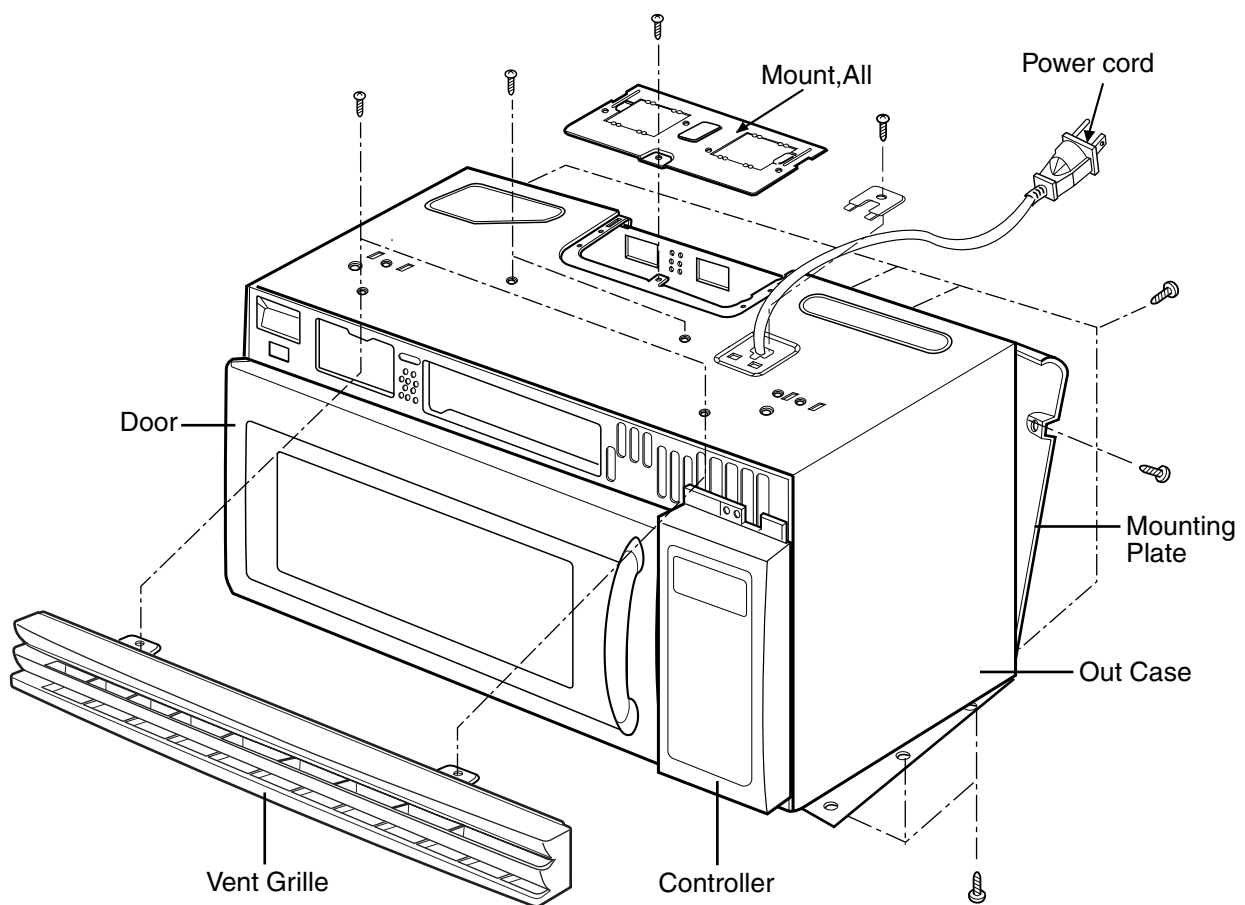

Figure 8
B. REMOVING THE OUT CASE(Figure 8)
- (1) Remove the vent grille by removing two screws securing it to the out case.
- (2) Remove two screws securing it to the air duct.
- (3) Remove the mounting plate by turning the screws (1 or 2 screws)securing it to the out case.
- (4) Remove two screws on the left central edge and two screws on the right central edge of Base plate.